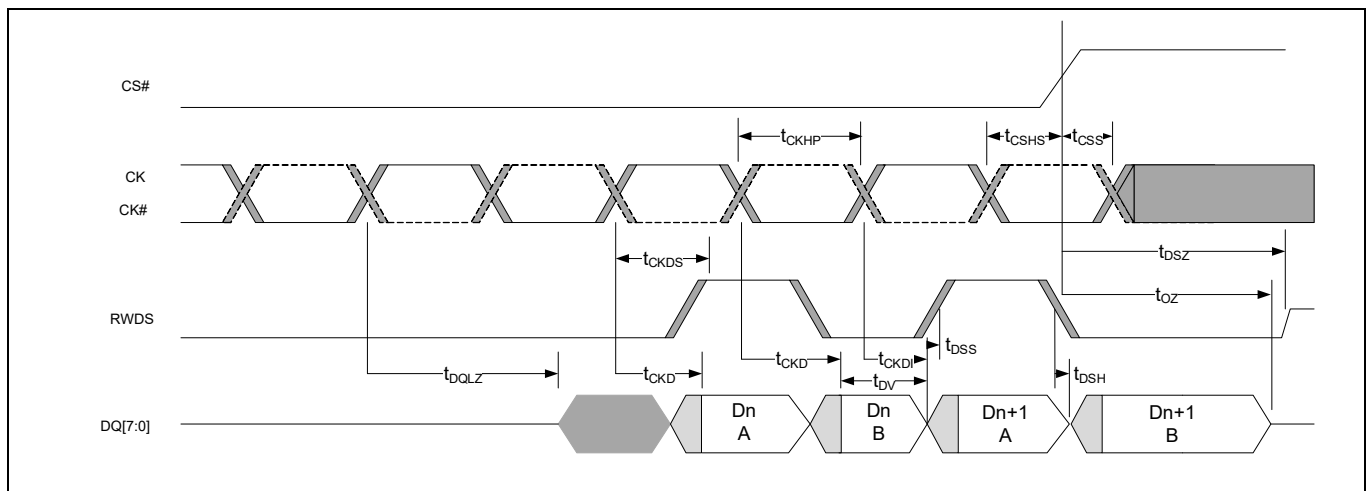

Figure 39 Data valid timing^[53-55]
- 51. Refer to **Figure 39** for data valid timing.